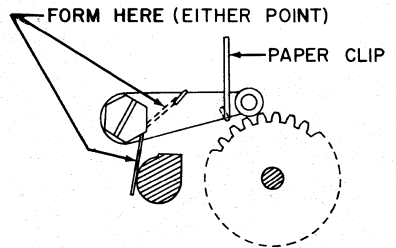

Figure 11
2. Adjust the detent spring to have from 3/4 to 1 lb. tension at the roller (Figure 11). Form the spring end to change the tension. To check, hook a bent paper clip under the detent arm near the roller. Hook the spring scale T-18123 to the end of the paper clip, pull the scale until the detent roller leaves the ratchet wheel, and note the reading obtained.
2. Adjust the detent spring to have from 1 to 1-1/4 lb. tension at the roller. Form the spring end to change the tension. To check, hook a bent paper clip under the detent arm near the roller. Hook the spring scale T-18123 to the end of the paper clip, pull the scale until the detent roller leaves the ratchet wheel, and note the reading obtained (Figure 11).